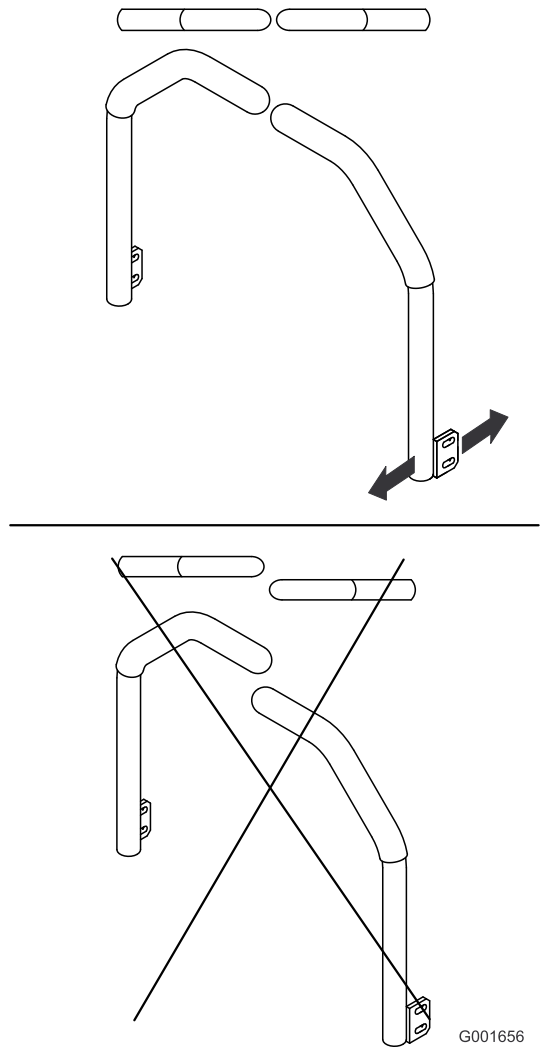

Figure 78
5. Adjust the control levers so that they line up and tighten the bolts, securing the levers to the posts (Figure 78).